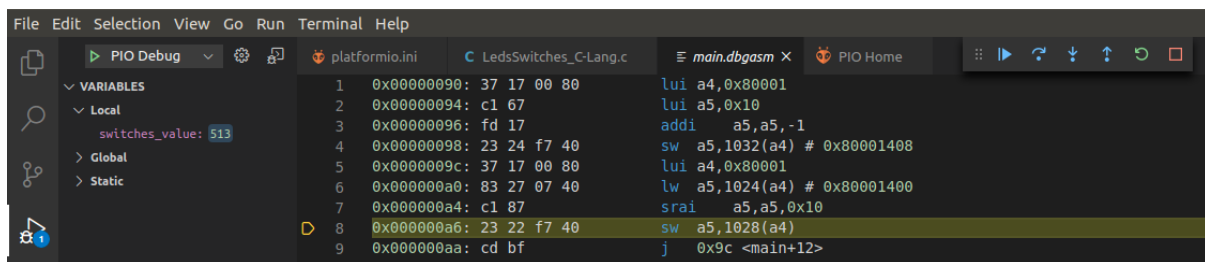

Figure 65. Assembly program
7. The program in assembly (Figure 65) first reads the value in the Switches with a load instruction (`lw a5, 1024(a4)`) and then writes it to the LEDs with a store instruction (`sw a5, 1028(a4)`). Execute it step by step, change the switches and verify that the LEDs change to reflect the new switch values.